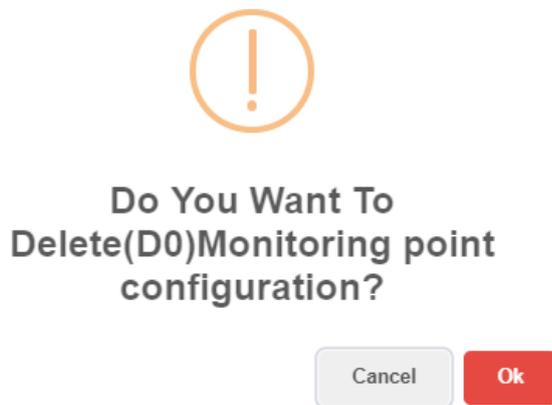

Figure 5-10
- 2) Click "Delete" button, it will pop-up tip message as shown in Figure 5-10;